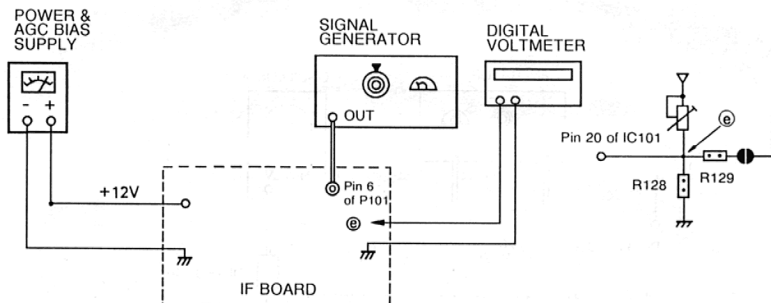

Figure 12. AFC Alignment
- GENERAL Refer to figure 12 for test equipment connection.
3. Supply +12 volts to the IF Board. (See figure 12.)
DVM..... Connect to the resistor R128 (⊗ in figure 12) and ground.